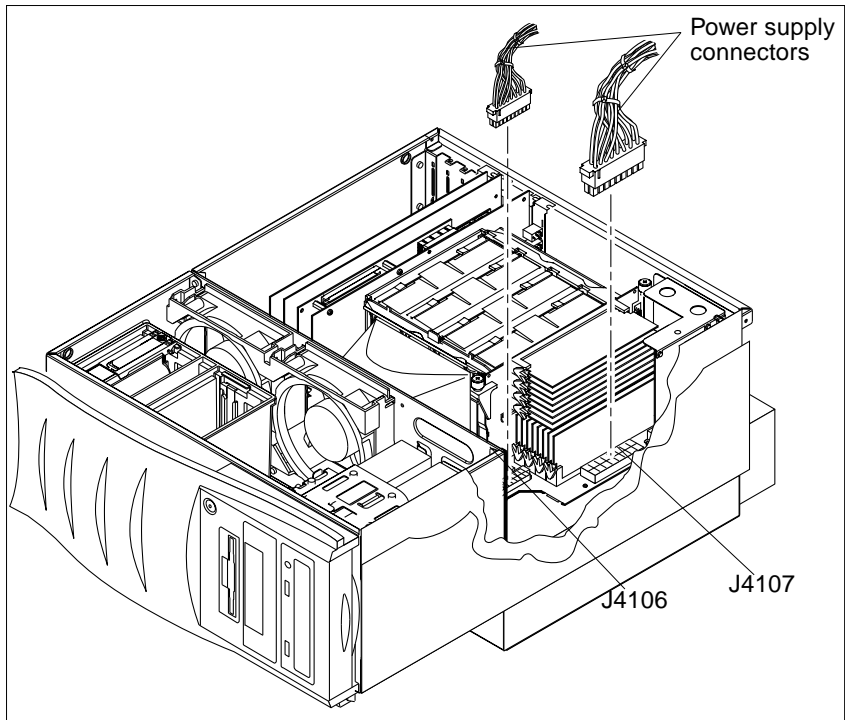
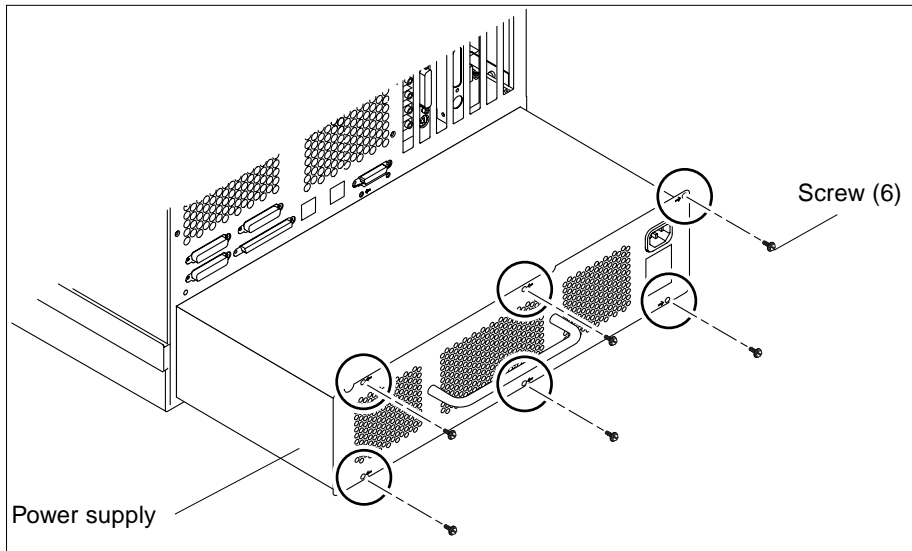

FIGURE 7-1 Removing and Replacing the Power Supply Assembly (Sheet 1 of 2)
FIGURE 7-2 Removing and Replacing the Power Supply Assembly (Sheet 2 of 2)
4. Remove the power supply assembly as follows (FIGURE 7-1 and FIGURE 7-2):
1. **Replace the power supply assembly as follows (FIGURE 7-1 and FIGURE 7-2):**